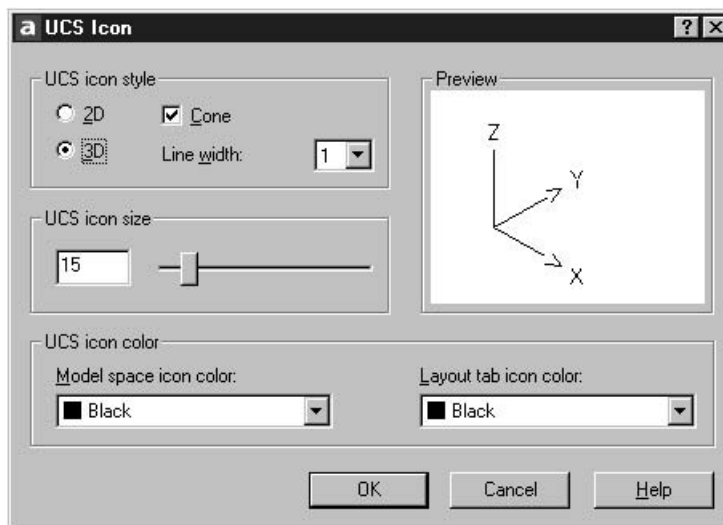

Figure 3.4 The UCS Icon dialogue box with the 3D icon set.
- d) dialogue box as Fig. 3.4
- 9 The icon will be displayed as Fig. 3.4(c) and as Fig. 3.4(d) if a SE Isometric viewpoint is set